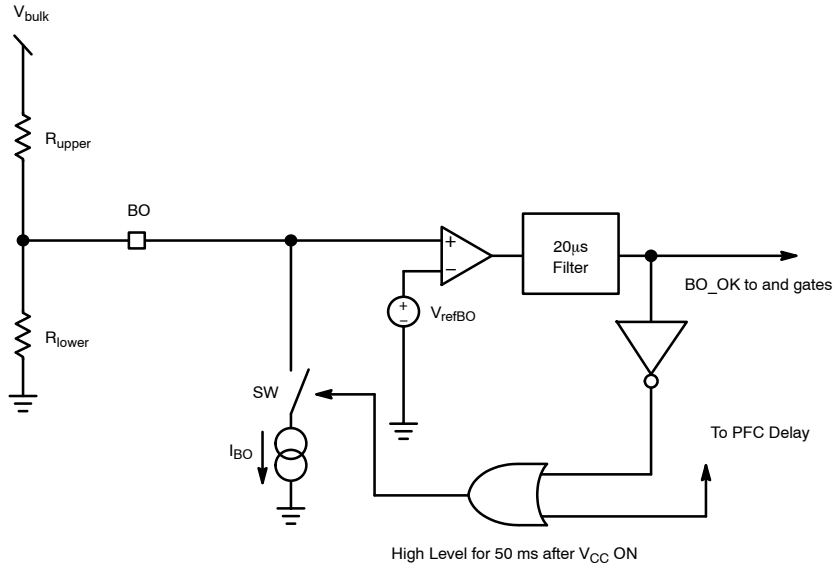

Figure 24. The internal Brown-Out Configuration with an Offset Current Sink
The Brown-Out circuitry (BO) offers a way to protect the application from low DC input voltages. Below a given level, the controller blocks the output pulses, above it, it authorizes them. The internal circuitry, depicted by Figure 24, offers a way to observe the high-voltage (HV) rail.